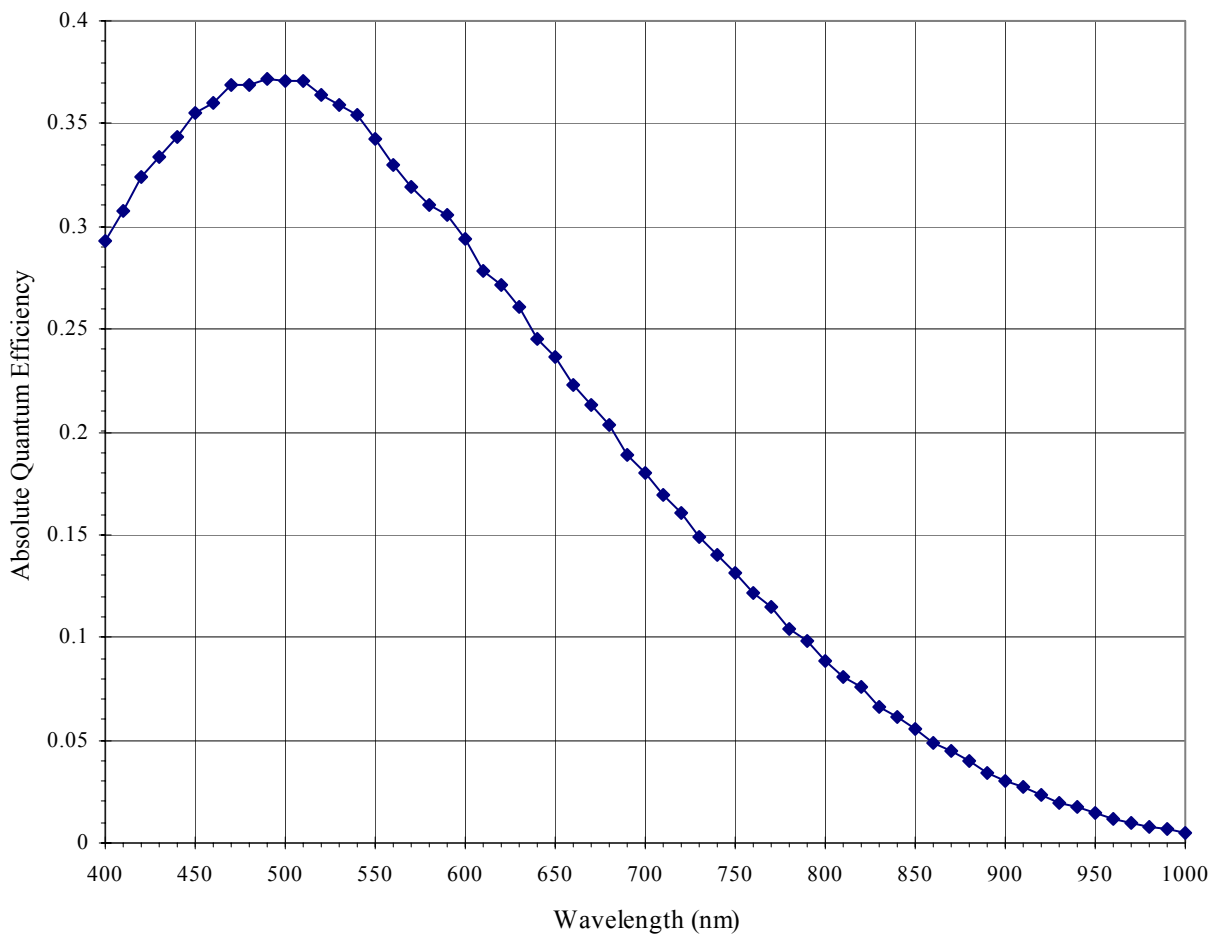

Figure 20 Nominal KAI-1010M Spectral Response
- 2. Refer to typical values from Figure 20 Nominal KAI-1010M Spectral Response